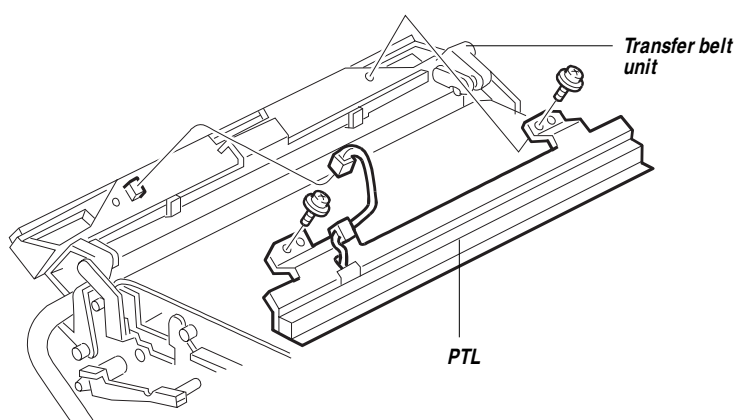

Figure 2-21 Installing the PTL
3. ***Replace the PTL on the transfer belt unit with the PTL provided in this kit (see Figure 2-21).***